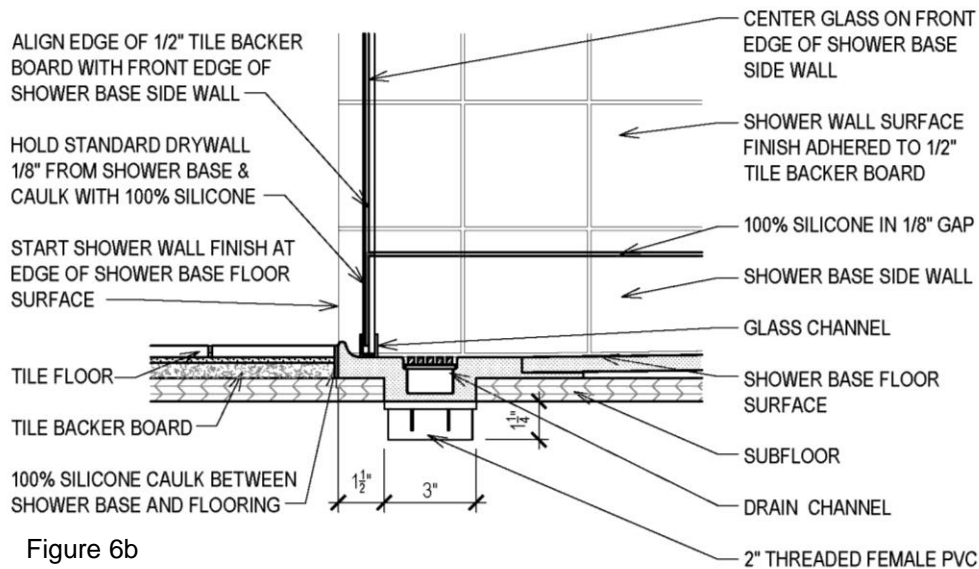

Figure 6b
- Install wall finish slightly past the drain opening so water that runs down the side walls to the drain cannot escape at the side wall and drain interface. See Figure 6b.
- When shower wall finishes are installed, tile or other wall finishes used should be adhered to the shower base's 4" vertical sides using 100% silicone mildew resistant caulk. Do NOT use tile thin set mortar or any other mastic. These materials will not adhere as well or allow for expansion. See Figure 6a. Joint between base front and flooring must be caulked with 100% silicone, NOT grouted. See Figure 6b. Install tile or other wall finishes 1/8" off the shower base floor and flush to the front of shower base. Caulk the 1/8" gap with 100% silicone caulk. See Figures 6a & 6b.
- Shower door and glass panels should be mounted at the front of the drain, centered between drain opening and front of shower base. See Figure 6b. Do NOT mount glass channels to shower base with screws. Use 100% silicone to mount glass channels.